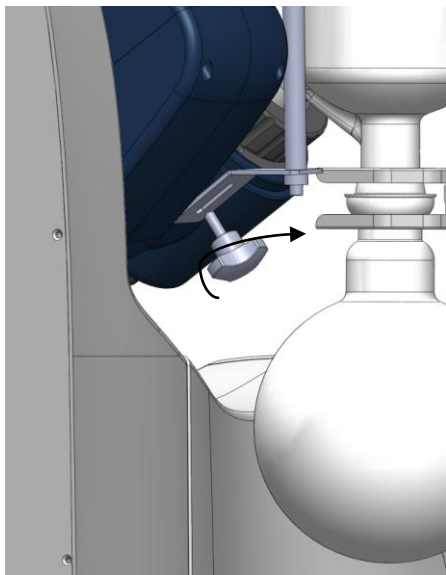

Figure 14
- Installing the vertical glassware condenser locking device (Figure 14).